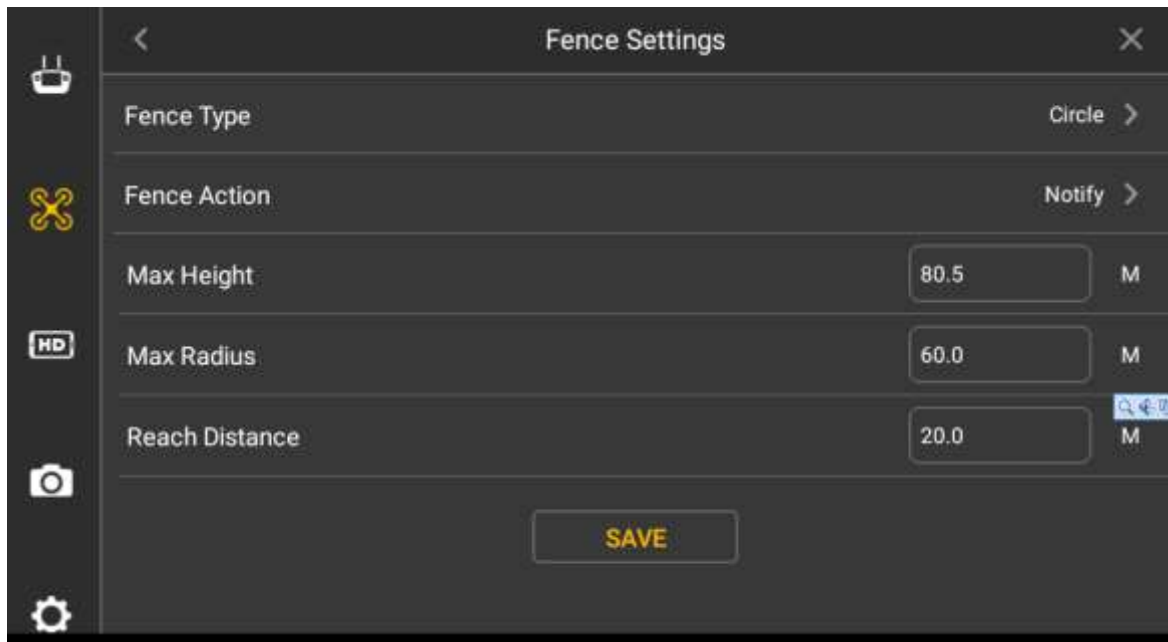

Figure 4-22
Step 1 Select "Settings > Flight Control Settings > Fence Settings". The system will display the interface of “Fence Settings”, as shown in Figure 4-22.